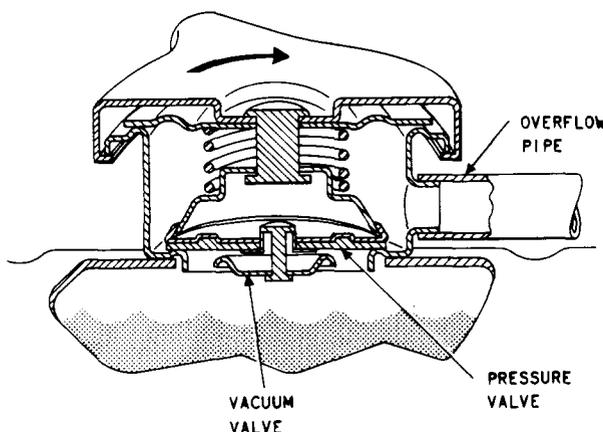

Fig. 4—Vented Pressure Cap
2.09 The primary function of any radiator cap is to act as a closure for the radiator filler neck. However, the vented pressure cap acts as a pressure control valve as well as a closure. This type of cap incorporates a vacuum valve, which when open allows passage of air, and a spring loaded valve that limits cooling system pressure (Fig. 4). The vacuum valve remains open until the coolant temperature approaches the boiling point. At this point the valve closes putting the cooling system under pressure. The increased pressure allows the coolant to operate at temperatures above the boiling point of water without boiling away, up to approximately 245 degrees depending on the preset pressure rating of the cap. Any excess pressure in the system above the rated pressure of the cap is released automatically by the spring loaded pressure valve being unseated from the filler neck seat.